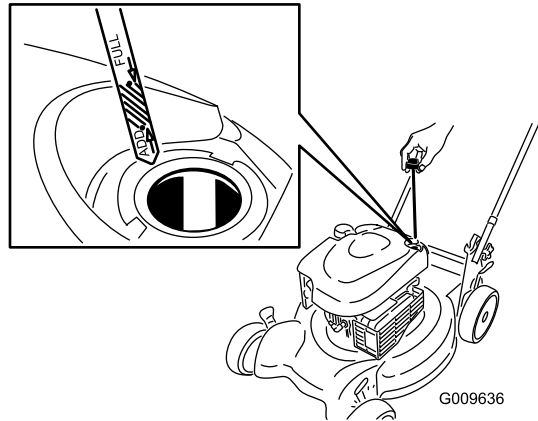

Figure 4
1. Remove the dipstick (Figure 4).
2. **Slowly** pour oil into the oil fill tube until the oil level reaches the **Full** line on the dipstick (Figure 4). **Do not overfill.** (Max. fill: 20 oz. (0.59 l), type: SAE 30 detergent oil with an API service classification of SF, SG, SH, SJ, SL, or higher.)